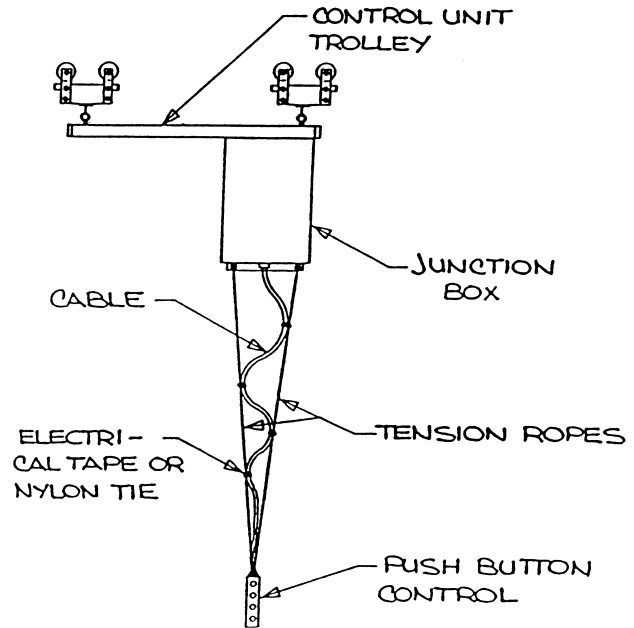

Fig. 6
1. Tension ropes are used to hang a push-button control below the junction box of a control unit trolley. (Fig. 6)